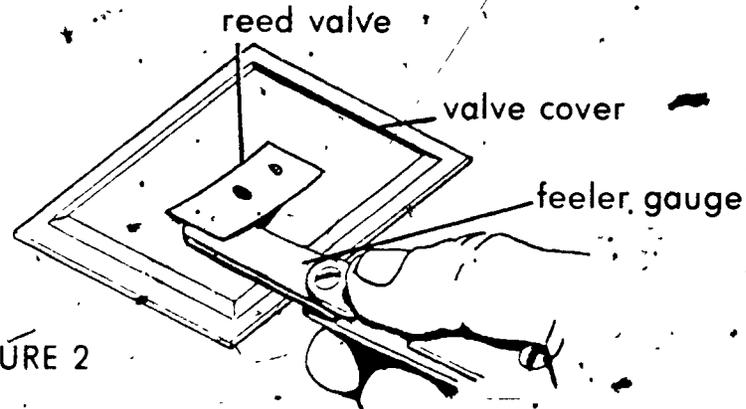

FIGURE 2
- E. Check breather valve for clearance (Figure 2)